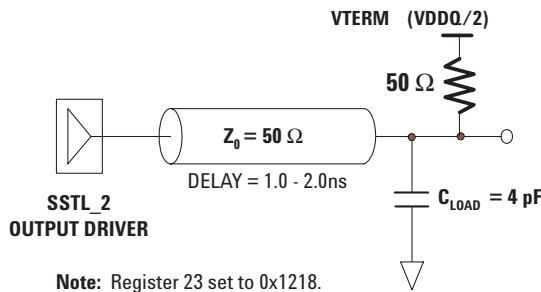

Figure 12. SSTL\_2 Output Test Conditions.
1. Tested under load conditions described in Figure 12, with  $V_{IH} = V_{REF} + 0.18$  and  $V_{IL} = V_{REF} - 0.18$ .
- See Figure 12 for measurement conditions.